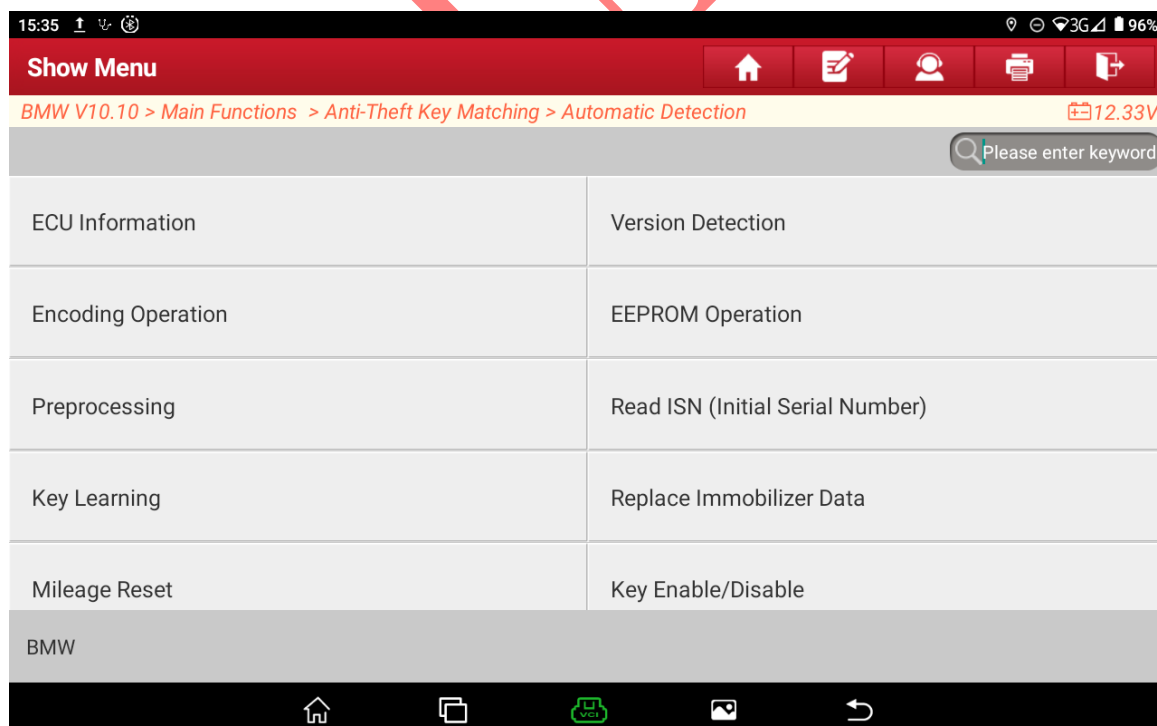

Figure 8
8. Select 【Encoding Operation】, as shown in Figure 8.